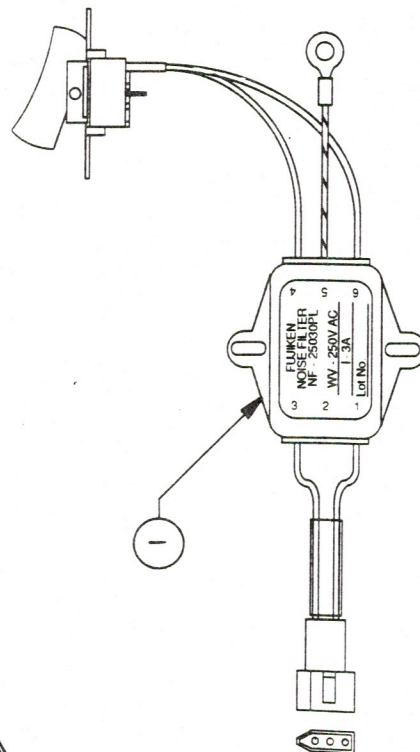

FIGURE 6
**DOT MATRIX PRINTER - NOISE FILTER (Figure 6)**
**IMAGEWRITER - PLATEN CARRIER DRIVE ASSEMBLY (Figure 6)**